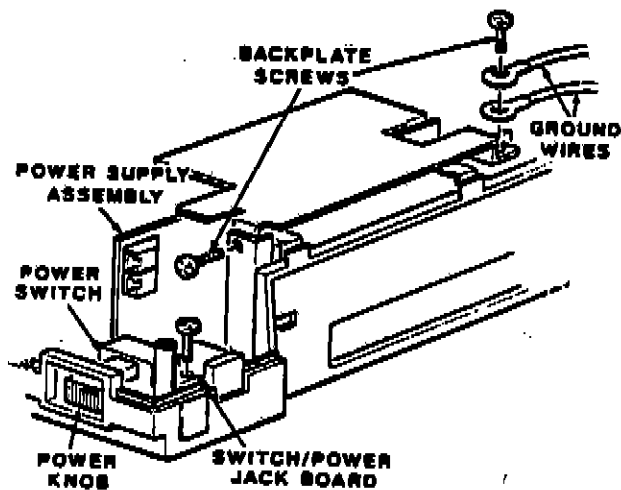

Figure 3-15. Power Supply Screws
Refer to Figures 3-15 and 3-16 for the following steps.
2. Remove the two screws securing the power supply to the backplate of the computer, as shown in Figure 3-15. Set the screws aside.
3. Remove the screw securing the switch/power jack assembly, as shown in Figure 3-15. Set the screw aside.